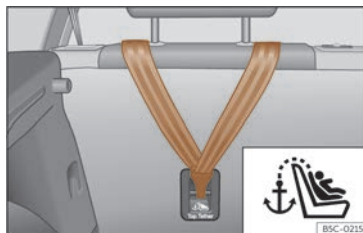
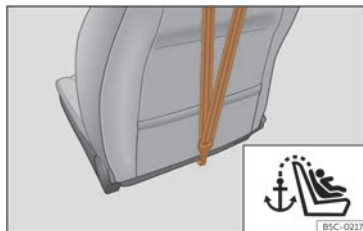

Fig. 46 Rear part of the rear seats: Top Tether strap anchor.
Fig. 47 Rear of front passenger seat backrest: Top Tether strap anchor (not available on all markets).
- Slide the strap and secure it properly with the anchor on the rear seat backrest >>> **Fig. 46**, >>> **Fig. 47**.